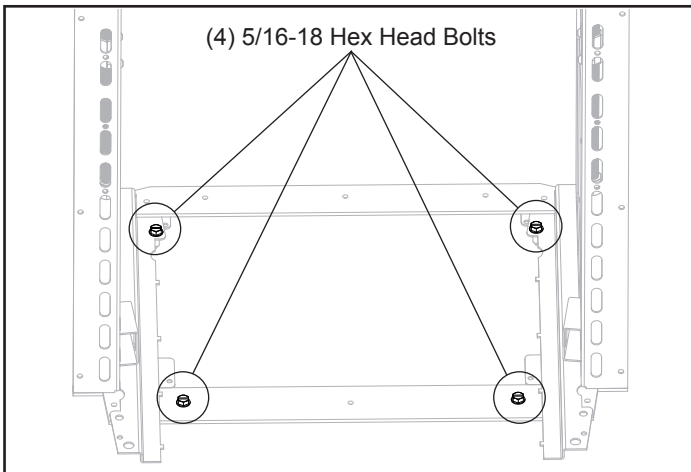

Figure 5.2 - Remove (4) 5/16-18 Hex Head Bolts
Now that the unit is removed you can now remove the mounting frame from the skid. To do this simply remove (4) 5/16-18 Hex head bolts. Figure 5.2.